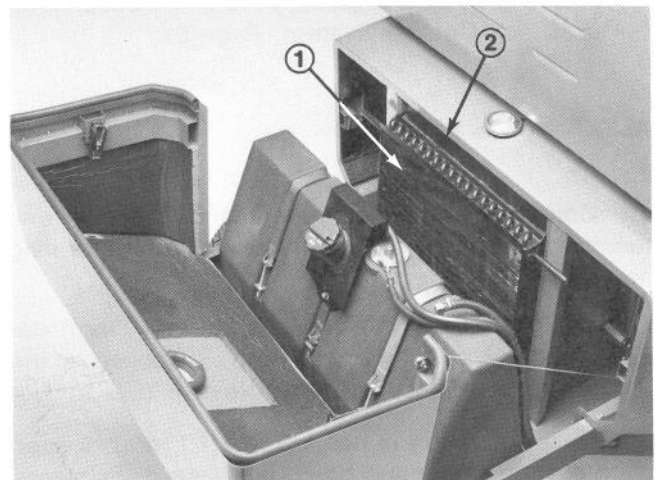

Figure 38
B. Reach inside rear engine cover, release latches and open rear engine cover. (Fig. 38). Lift up on oil cooler handles and pivot rearward in mounting slot. Clean both sides of oil cooler, radiator and rear engine area thoroughly with compressed air. Pivot oil cooler back into position and latch front and rear engine covers.